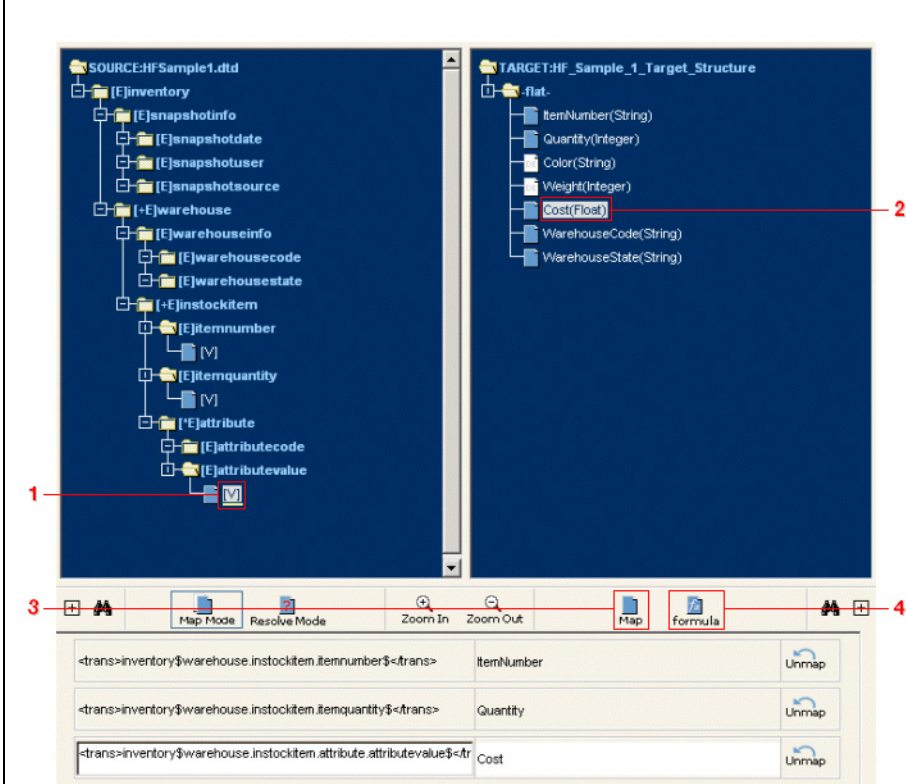

Figure 23-1. Map the appropriate source-target data elements, then click the **Formula** button to launch the Formula Builder.
- ❶ Select the `[V]` under the `attributevalue` element in the source pane.
- ❷ Click on `Cost` in the target pane.
- ❸ Click the **Map** button.
- ❹ Click on the **Formula** button to launch the Formula Builder (see Figure 23-1 below).